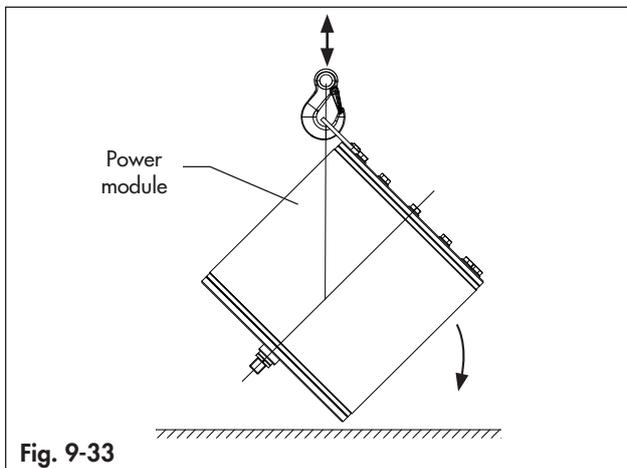

Fig. 9-33
- Lift the Power module with proper equipment and place it over a horizontal surface. (Fig. 9-33)